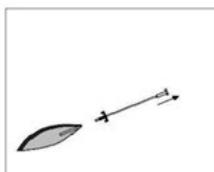

Figure 13
3. While holding the T-handle, pull out the introducer needle (See figure 13).